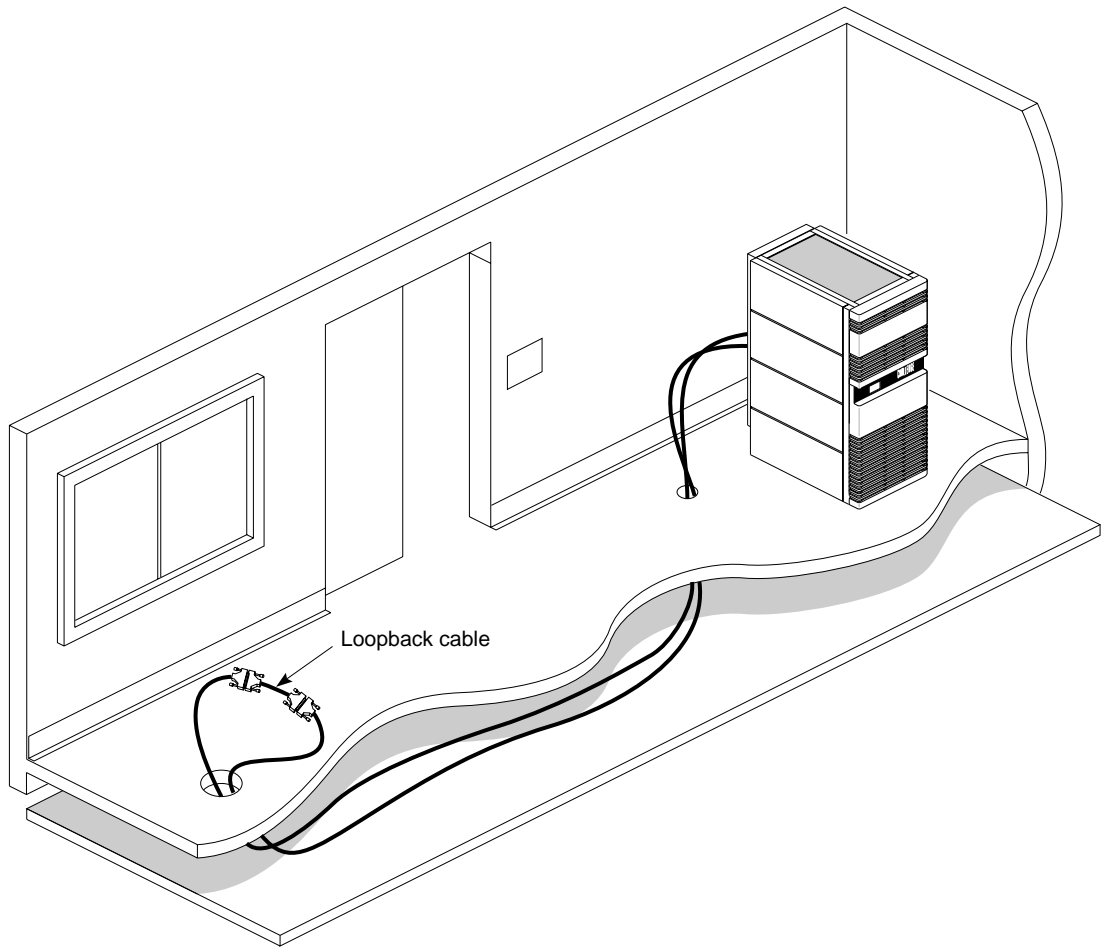

Figure 3-2 Installing a Copper Loopback Link Using a Loopback Cable
- Use a special loopback (female-to-female) cable to connect the other end of the HIPPI destination and source cables to each other, as illustrated in Figure 3-2.